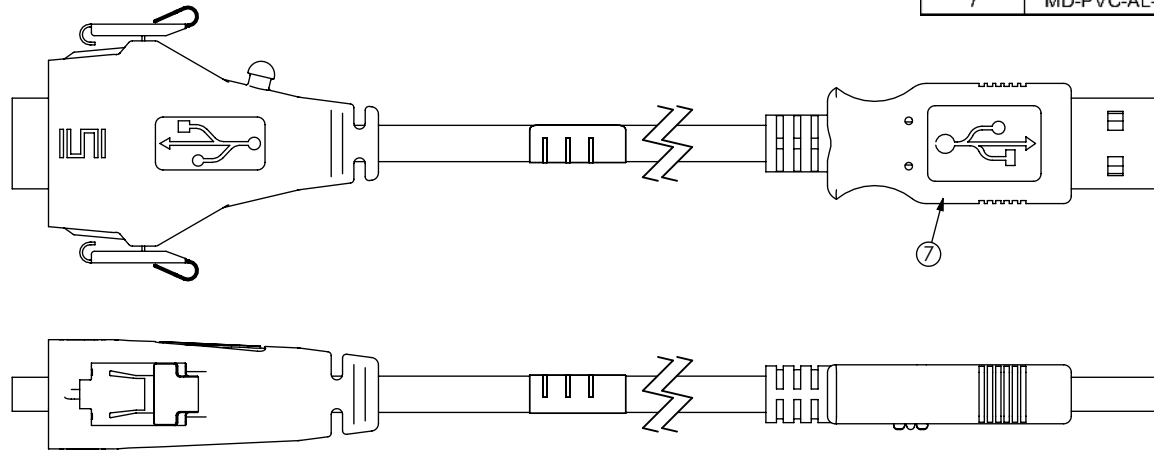

FIG 2
-AM: USB A NOT SEALED (USB A END NOT SEALED ONLY) (SEE SHEET 2, FIG 2)